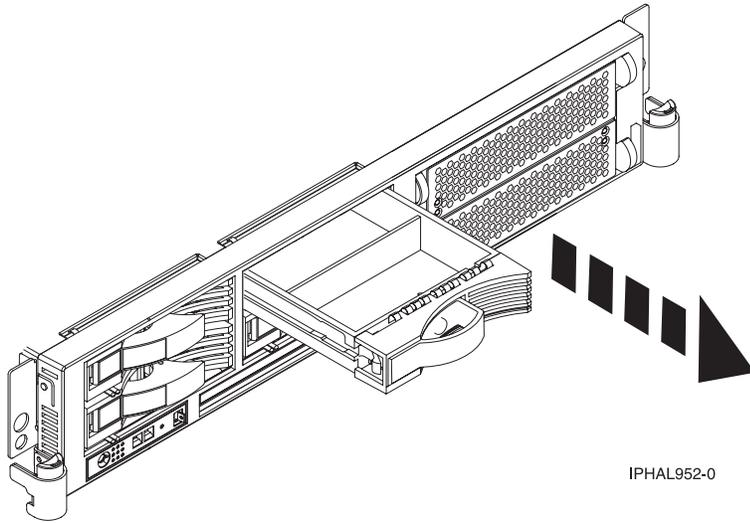

Figure 29. Removing a disk-drive filler from model 51x or 710
- a. Pull the disk-drive filler from the slot, as shown in Figure 29 on page 33 or Figure 30 on page 33.